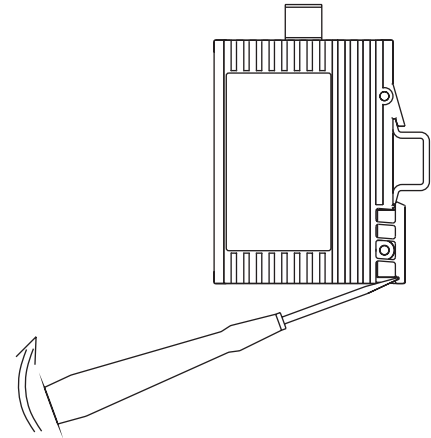

Fig. 7: Dismantling the SPIDER
- To take the SPIDER off the ISO/DIN rail, unlock the snap-in mechanism according to Fig 7.